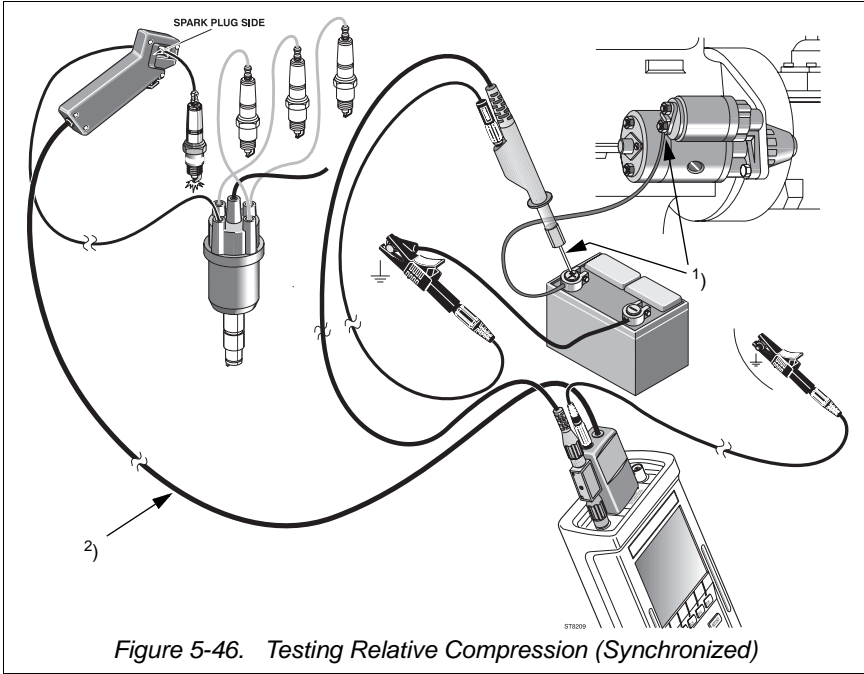

Figure 5-46. Testing Relative Compression (Synchronized)
- 4 Read the display for connection information and instructions to perform the test. See the test setup in Figure 5-46. Don't forget to connect the blue Filter Adapter on INPUT A. The Inductive Pickup must be clamped on the spark plug wire of the first cylinder **close to the spark plug**, otherwise the test may not work.